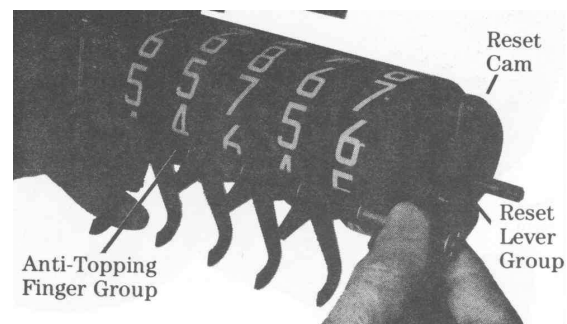

Figure 17. Anti-Topping Finger Group Installation.
2. Anti-Topping Finger Group Installation. See Figure 17.